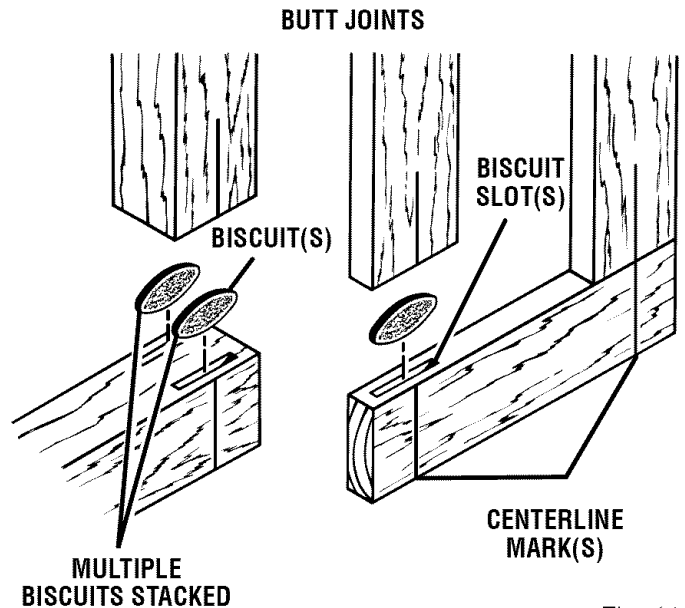

Fig. 11
See Figures 11 - 12.
- Finally, disassemble the workpieces and place a bead of glue in each slot. Also, spread a bead of glue over the entire surface of the joint. Reinsert the biscuits and assemble the workpieces as shown in figure 11.